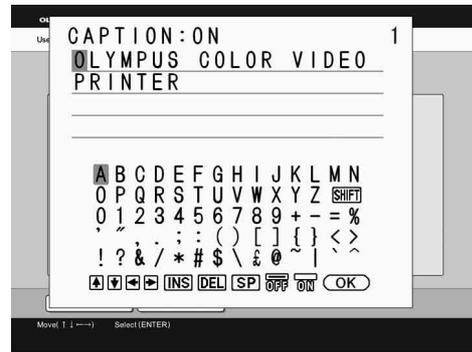

Figure 5.16
- Press “▲” or “▼” to select “CAPTION,” and press the “ENTER” button to display the “CAPTION” entry screen. “CAPTION : ON” appears on the top left of the screen (see Figure 5.16).